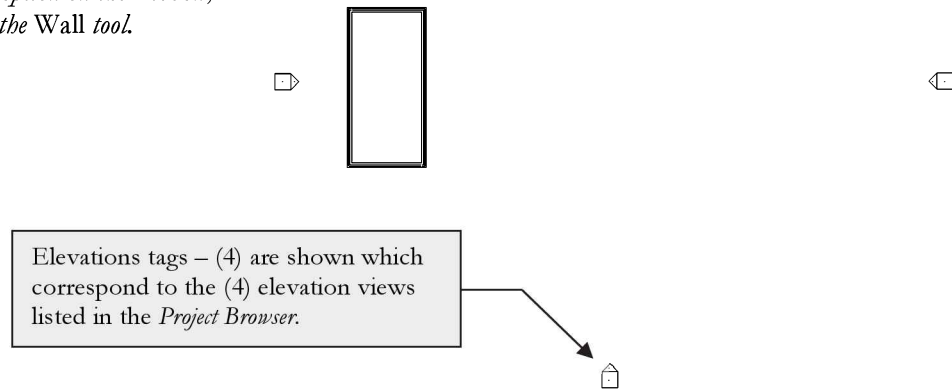

FIGURE 6-1.1 Bldg. and Elev. tags
5. Using the **Wall** tool with the wall *Type* set to “**Exterior - Brick on Mtl. Stud,**” and draw a 40'-0" x 20'-0" building (Figure 6-1.1).